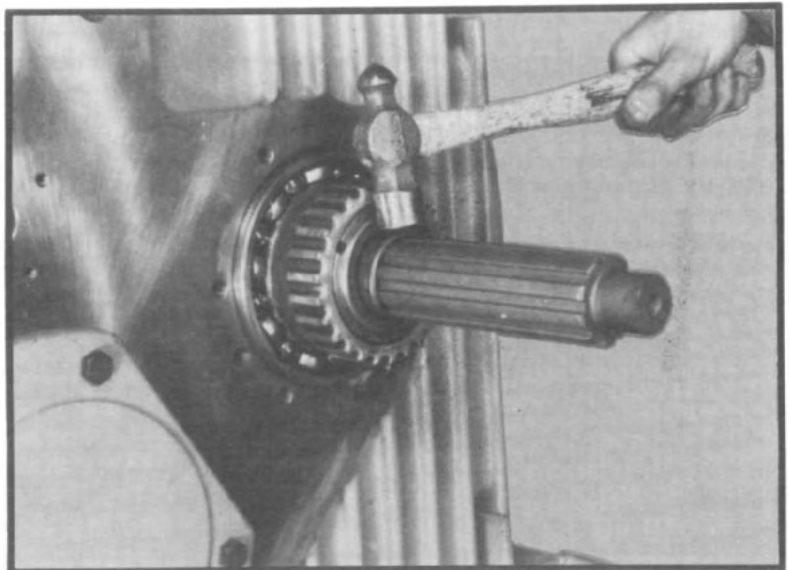

Fig. 152
3.18 Assemble sun gear to shaft by installing inner (round) retaining ring (if removed), installing sun gear, smaller counterbore over retaining ring, and installing outer snap ring. Insert sun gear shaft through rear of lower shaft assembly and press retaining ring over the groove located on front of shaft. (See fig. 152.)